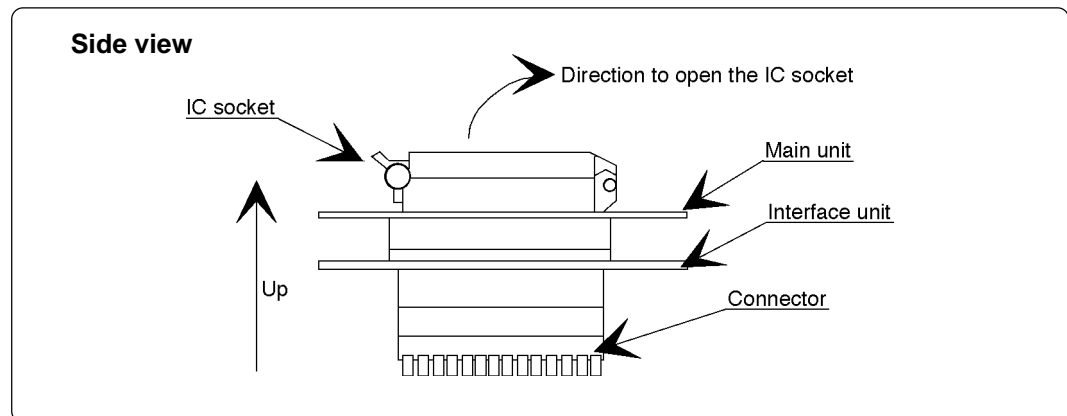

Figure 3.5 Opening and closing the IC socket
- When opening and closing the IC socket, hold the adapter horizontally as shown in Figure 3.5. Otherwise the inside of the IC socket may become damaged and cause an electrical insulation failure.